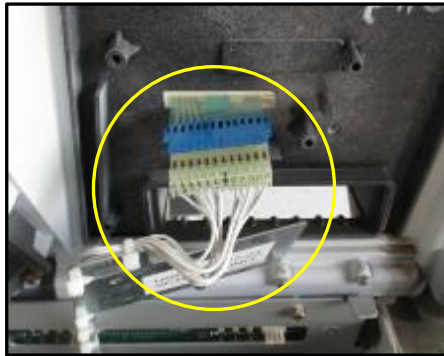

Fig 1.7 – Location of ADA keypad cable assembly
9. Unplug the ADA keypad (if present). (Fig 1.7)